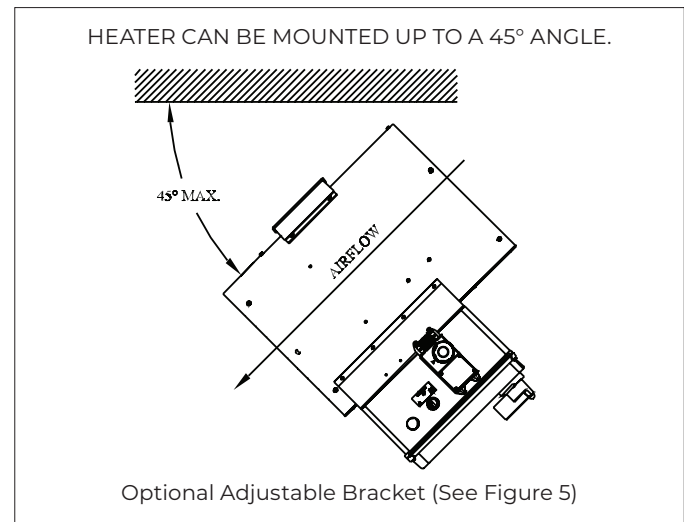
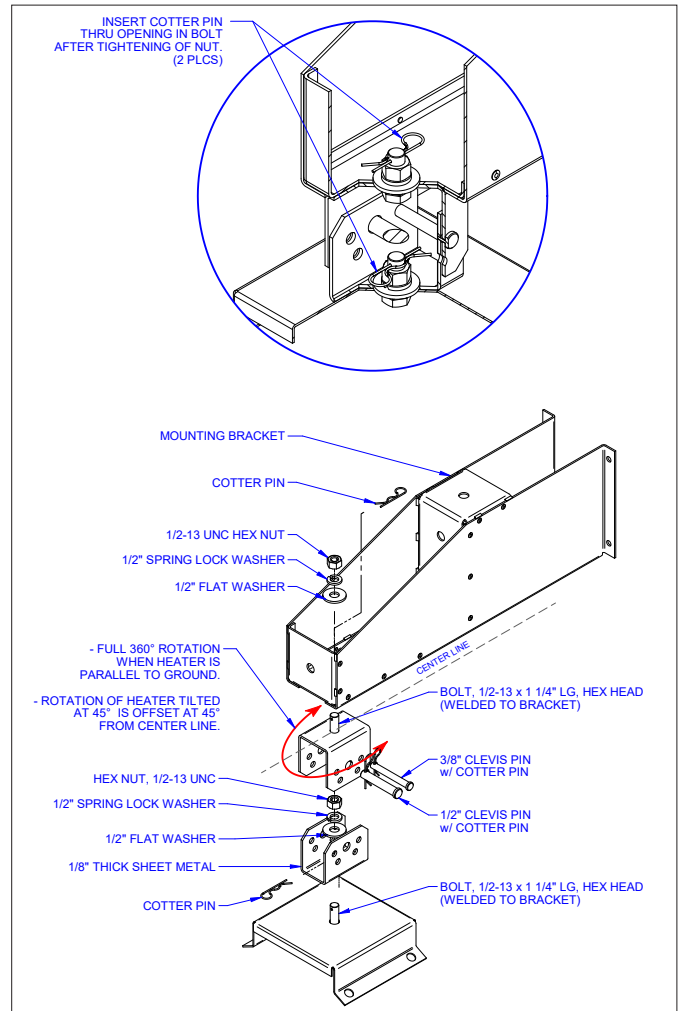

Figure 2
Figure 5 – Optional Adjustable Bracket
4. Install the bracket (see Figure 2 through Figure 5 for installation instructions).
6. For maximum tilt angles, see Figure 2. For maximum mounting height, see Section G. General Specifications, page 13.